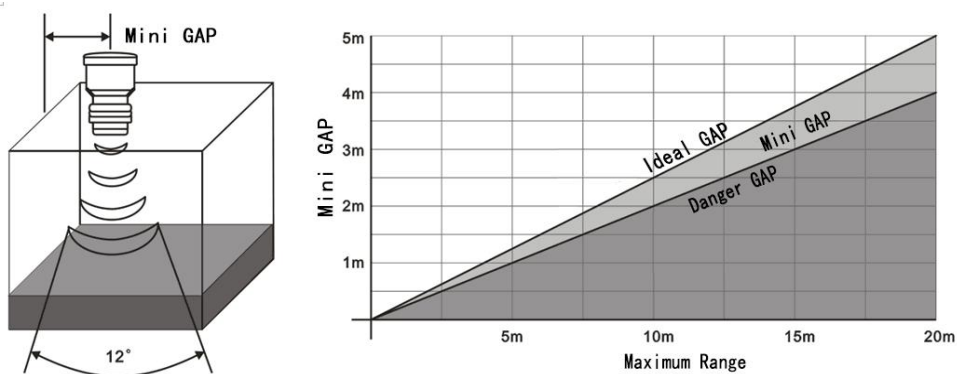

Figure 4
4. If the liquid to be measured has sewage, afloat impurities or fluctuation, use a waveguide and the diameter of the waveguide should over 120mm, as Figure 4.